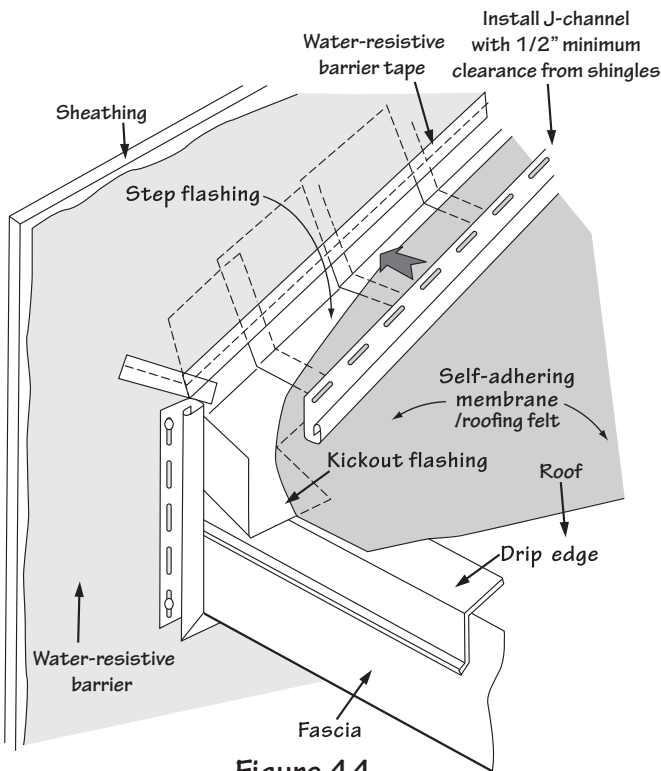

Figure 44.
- As an alternative to the diverter, create a “kickout” from metal flashing, as shown in Fig. 44.
NOTE: “Kickout flashing” (Fig. 44) is an additional flashing strip that extends beyond the edge of the fascia that is required in some cold-climate localities.